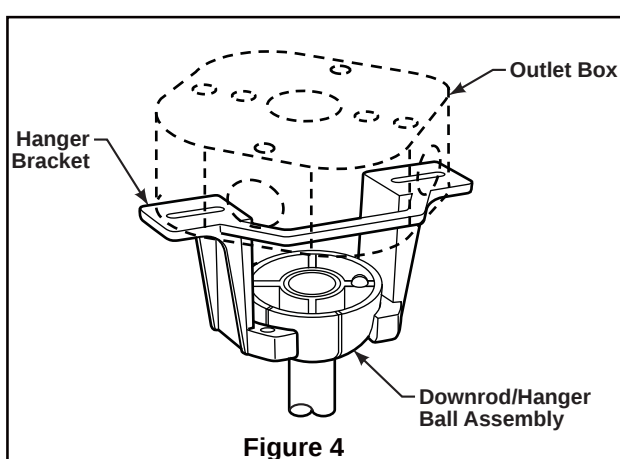

Figure 4
- ☐ 4. Thread downrod into the downrod support on top of the motor. Install the clevis pin by aligning the holes in the downrod support with holes in the downrod. Secure clevis pin with hairpin clip. Tighten the two set screws with nuts in the downrod support. (Figure 4)
- ☐ 2. Carefully lift the fan and seat the downrod/hanger ball assembly on the hanger bracket that was just attached to the outlet box. Be sure the groove in the ball is lined up with tab on the hanger bracket. (Figure 4)